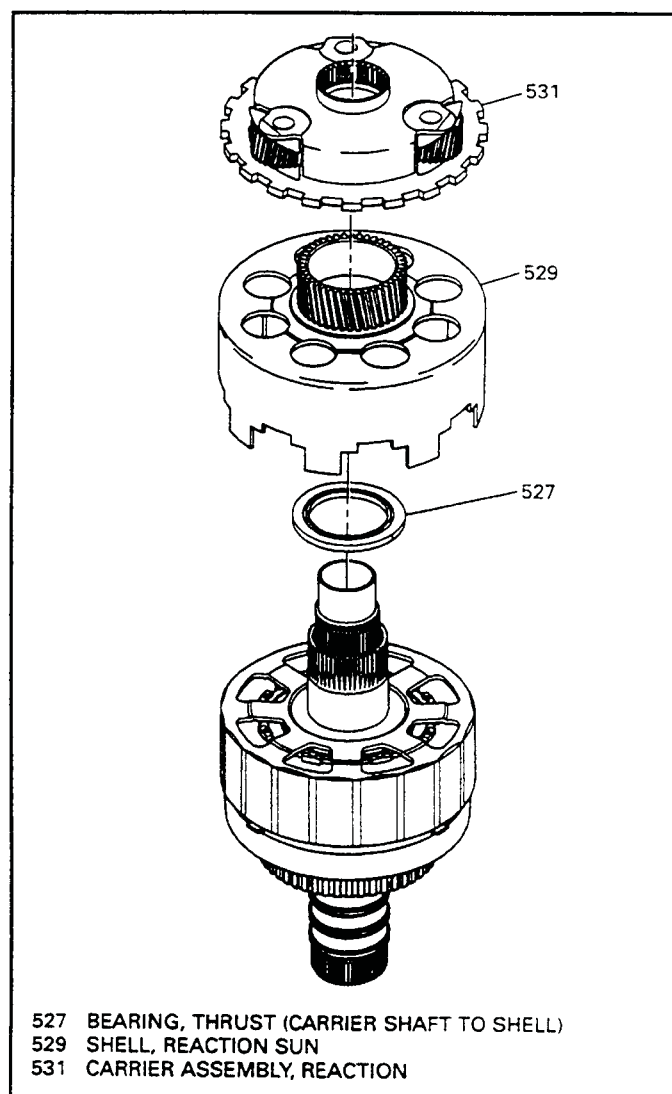

Figure 138
34. Install the thrust bearing (527) onto the top of of the reaction sun shell assembly as shown in Figure 138.
35. Install the reaction sun gear and shell assembly (529) onto the reaction shaft shell, as shown in Figure 138.